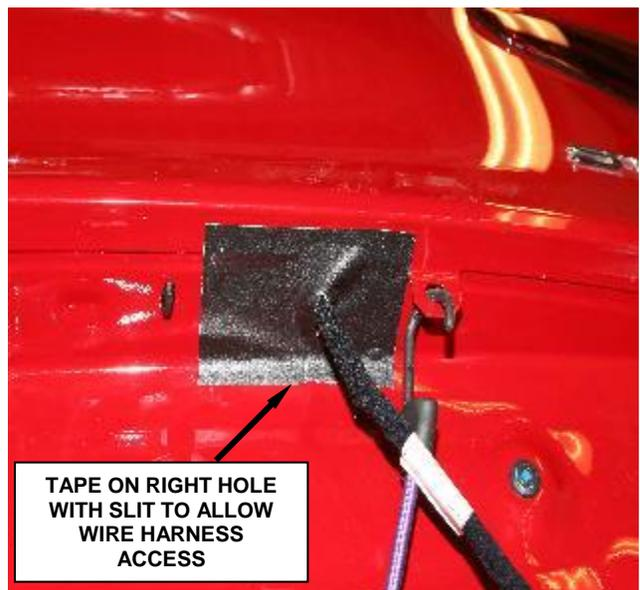

Figure 29 - Cloth Tape to Right Side of Liftgate
9. Apply a piece on the right hole, tearing it partially, as shown, so as to be able to wrap around the wiring at the outlet (Figure 29).